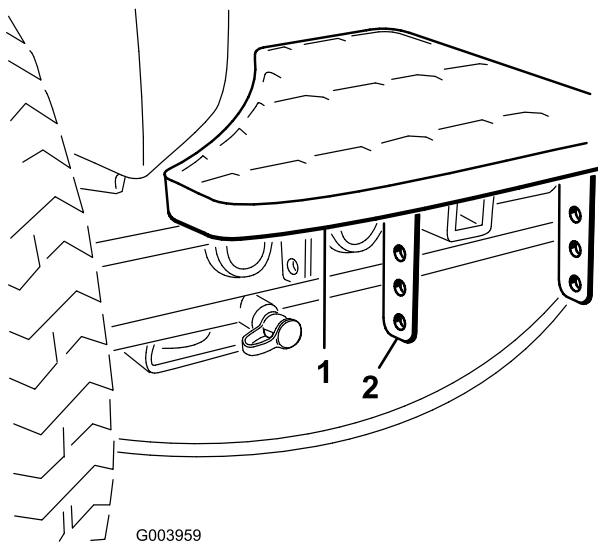

Figure 2
1. Remove the 2 bolts and nuts securing the step brackets to the traction unit frame (Figure 2)